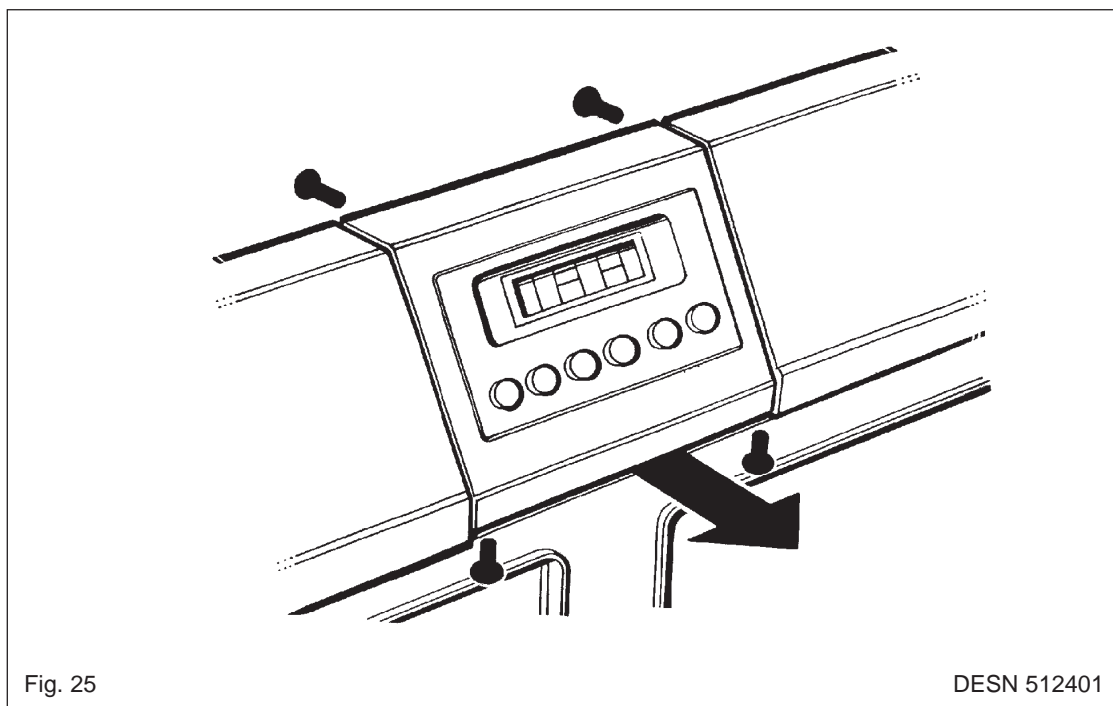

Fig. 25
3. Remove fixing screws (4). Two top rear and two lower front of timer housing.
4. The timer assembly can now be lifted upwards sufficiently to disconnect electric cables at rear of timer. (See Fig. 25).
5. Slacken timer fixing screw sufficiently to allow timer securing strip to slide out of fascia panel. (See Fig. 25).